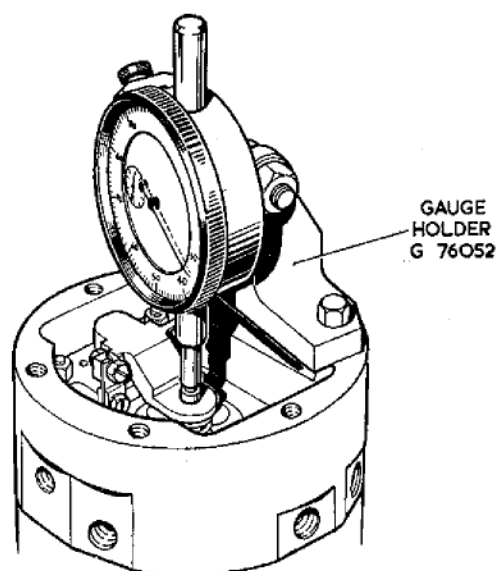

Fig. 8. Checking the rocker lever tail lift
68. Fit the gauge and holder G.76053 (fig. 8) to the end face of the body. Position the button of the D.T.I. on the blued spot on the rocker lever.